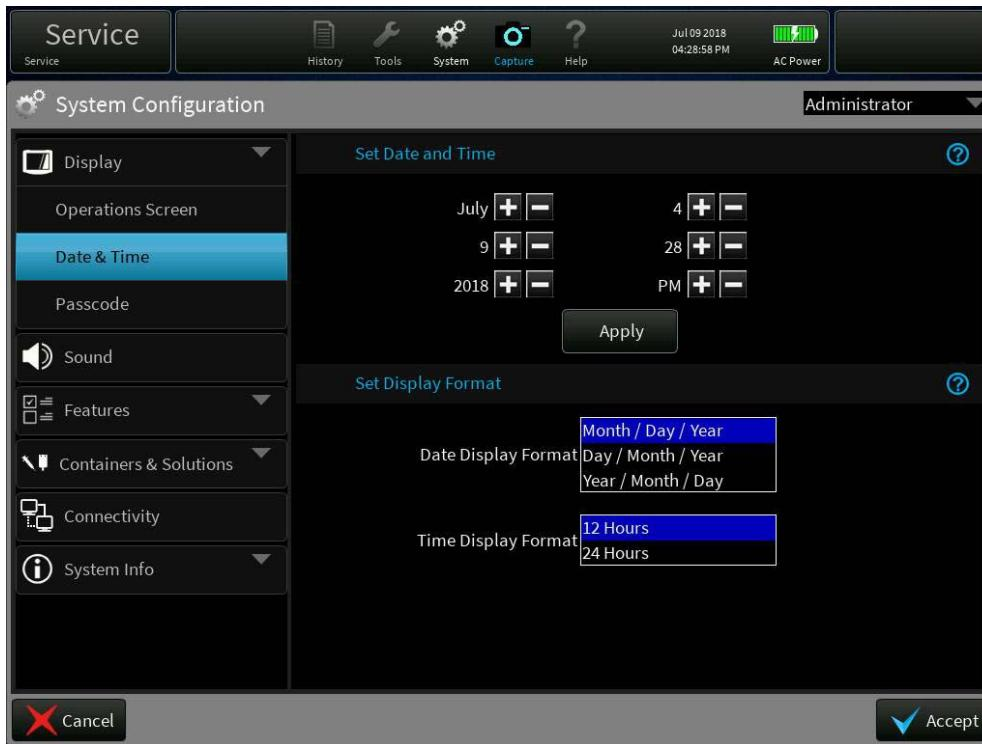

Figure 4-18 Set Date and Time Screen
3. Press **Display** again to display the sub-menu, then press **Date & Time** to view the Set Date and Time screen (Figure 4-18).